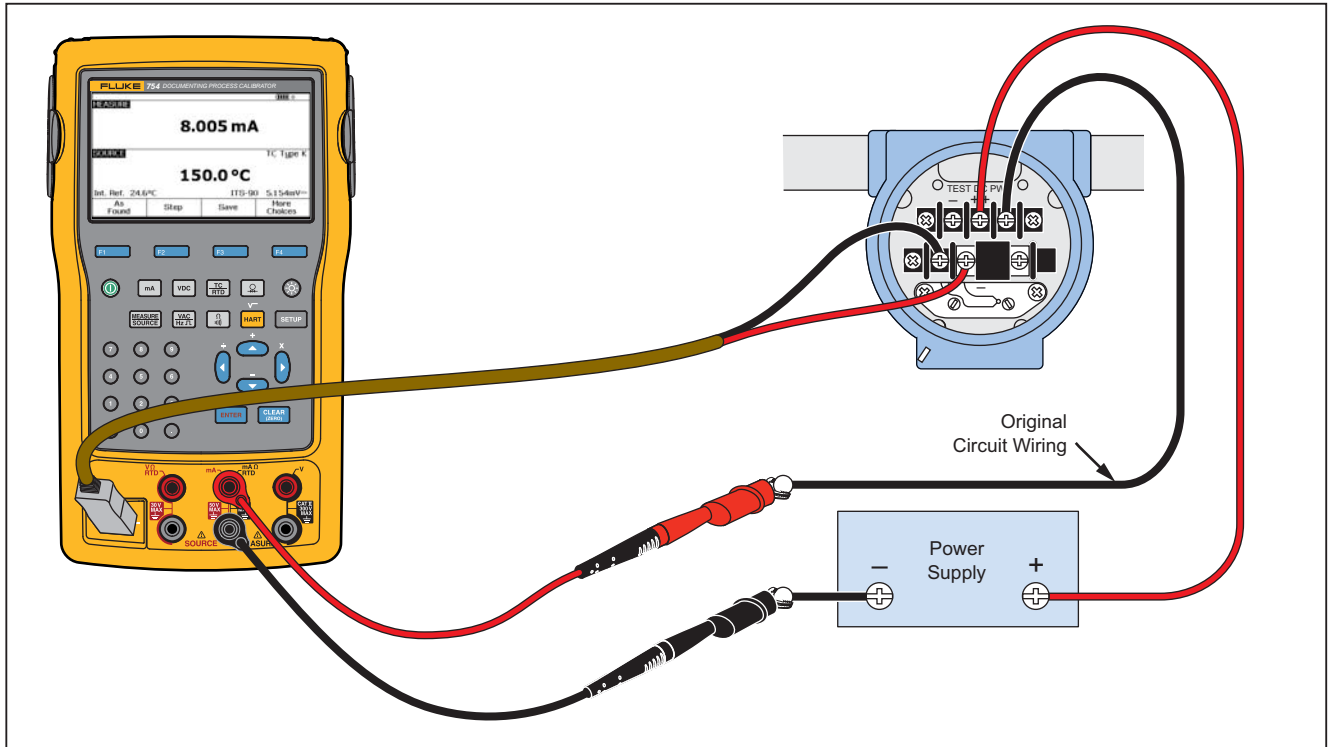

Figure 30. Calibrate a Thermocouple Temperature Transmitter
1. Connect the test leads to the instrument under test as shown in Figure 30. The connections simulate a thermocouple and measure the corresponding output current.